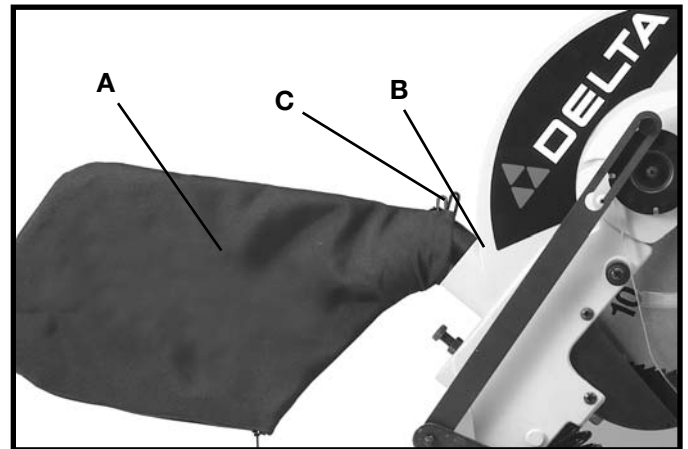

Fig. 6
Assemble dust bag (A) Fig. 6, to free end of dust spout (B) as shown.